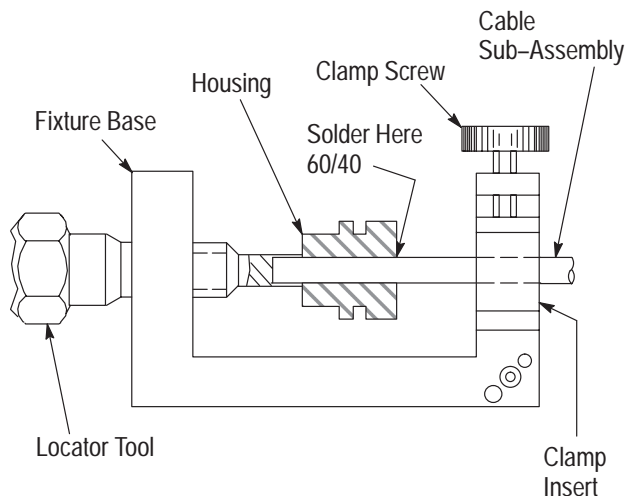

Figure 4
2. Place loose assembly in fixture base as shown in Figure 4.